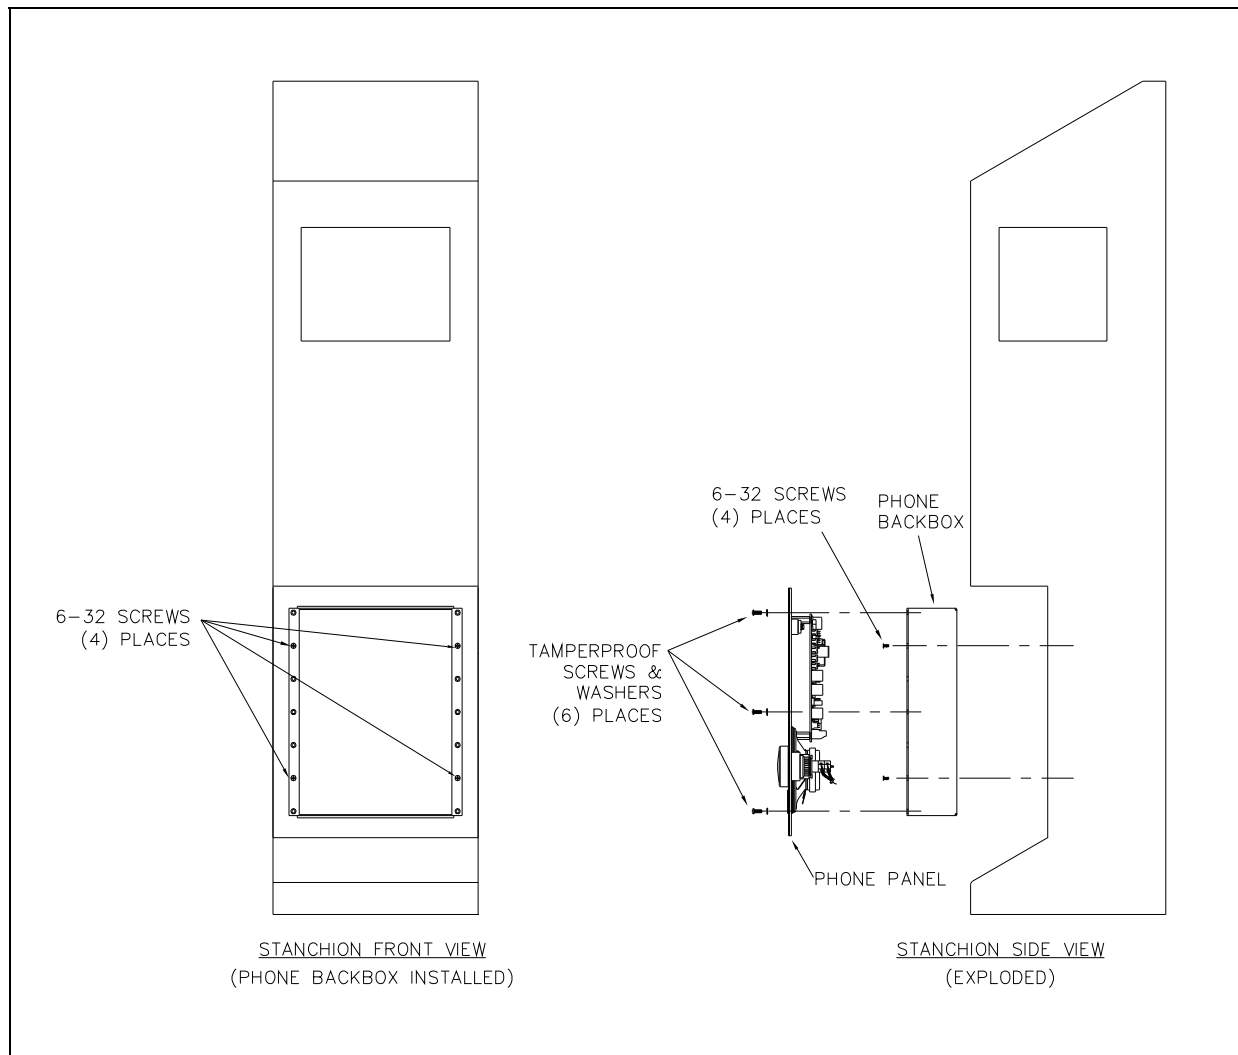

Figure 7. Telephone and Back Box Installation
2. Place the back box into the telephone opening from the front of the stanchion. Mount the box using four of the #6-32 self-tapping flat head screws. Refer to Figure 7 below. The telephone back box has two openings, one in the top and one in the bottom. Plug the top opening with the hole plug. The bottom of the back box is the recommended entry location for the telephone line and strobe control wires.